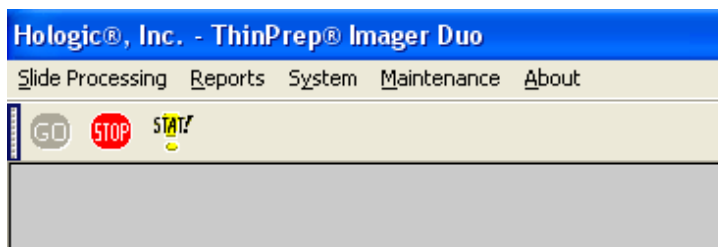

Figure 3-20 Slide Processing - Stop Button
- a. At the top of the display, position the cursor on the red STOP button and click once. (Figure 3-20.)